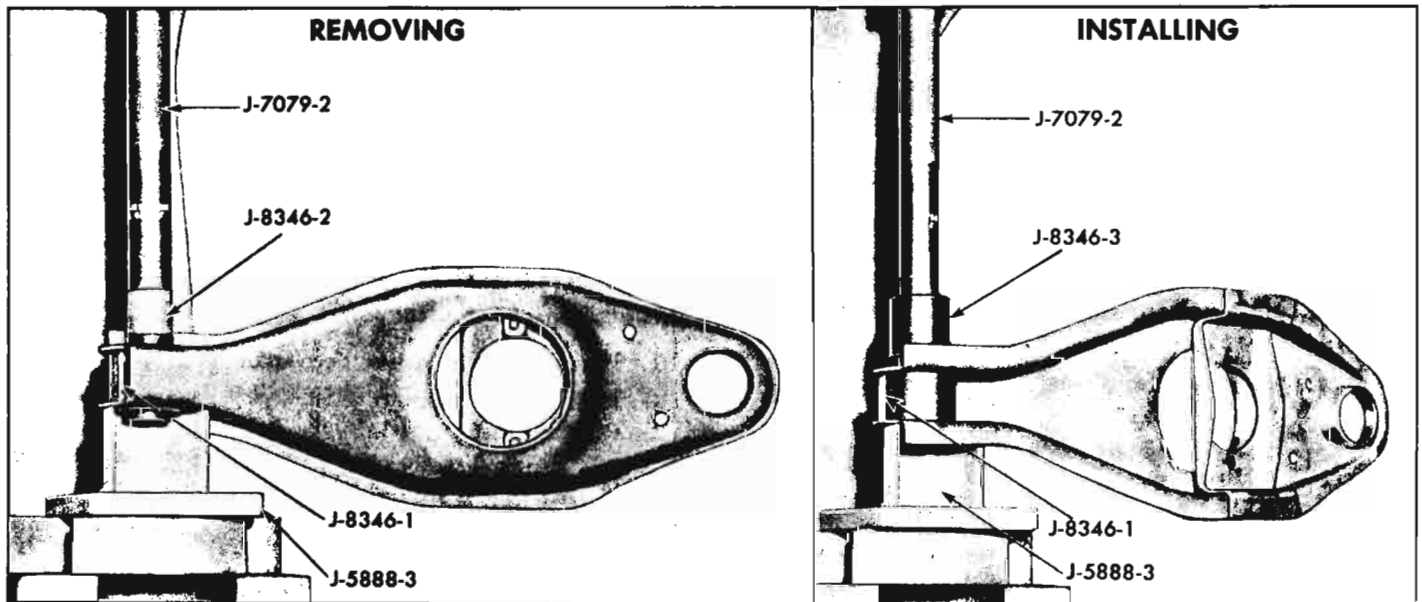

Fig. 3-16—Removing and Installing Lower Control Arm Bushings
11. To remove the bushing set up the tools as shown in Figure 3-16. The bushing may be pressed or hammered out of position. In any case, be certain to press on the end of the bushing that does not have the large collar on outer shell.
1. If lower control arm bushing was removed, replace as shown in Figure 3-16. The bushing must enter the control arm on the front side of arms.